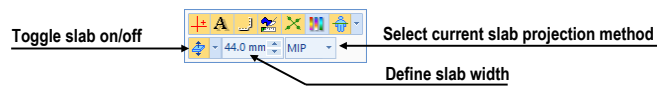

Figure 273 – Slab controls in view mini-toolbar
2. In the mini-toolbar displayed with view context menu (see Figure 273), the slab mode can be toggled on or off, the exact slab width can be set, and the projection algorithm can be selected.